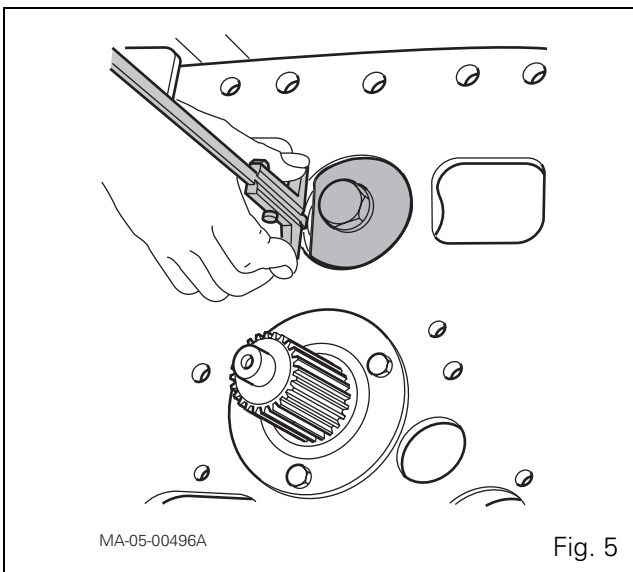
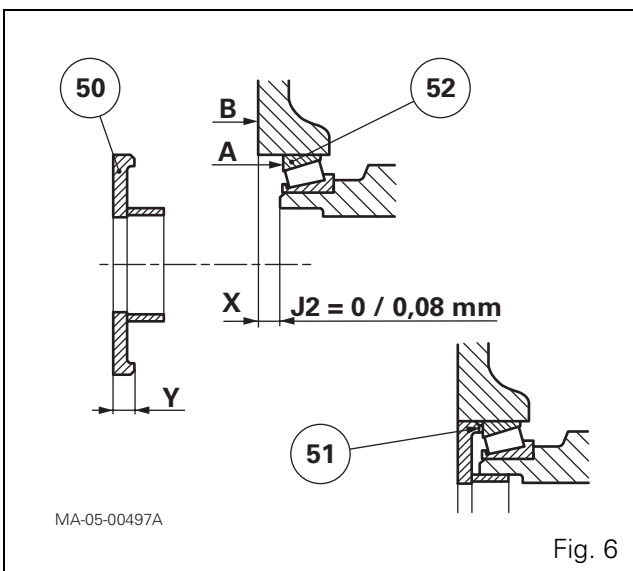

Fig. 5
Fig. 6
35. Carry out the shimming on the shaft to obtain a clearance of **J2 = 0 to 0.08 mm** (Fig. 6)
39. Using a depth gauge (Fig. 5), measure dimension X between face A of the bearing cup (52) and face B of the housing (Fig. 6).
40. Measure the thickness Y of the oil deflector (50).
44. Fit the shims (51) selected during step 42.